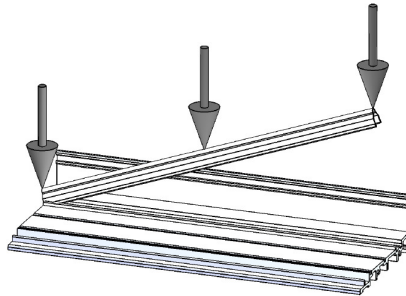

Figure 29:
2. Push tapered edge of track into the sill (Figure 29).